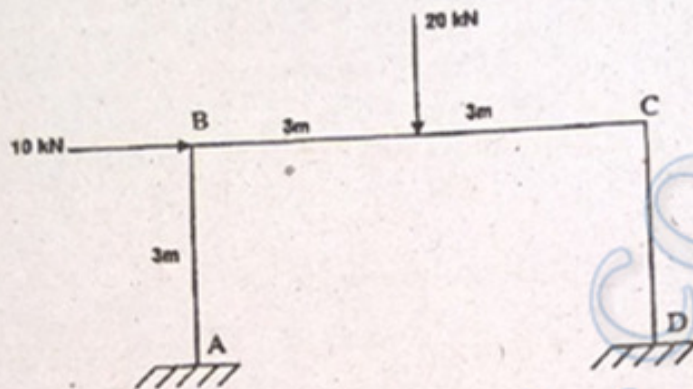

Fig. Q. 11 (b)
- (b) Analyse the portal frame shown in Fig. Q. 11 (b) using flexibility matrix method. EI is constant throughout.